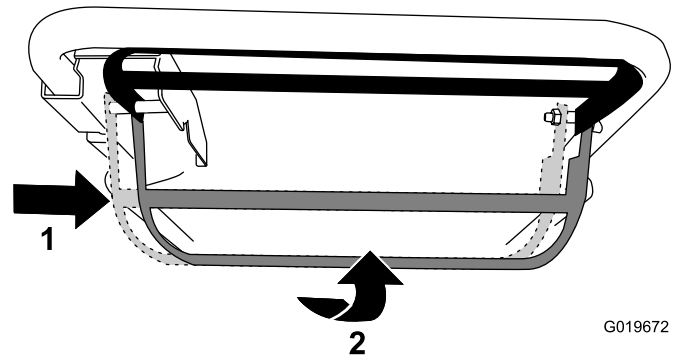

Figure 17
- **To operate the self-propel drive and engage the blade:** Move the blade-control bar all the way to the right and raise it to the handle (Figure 17).